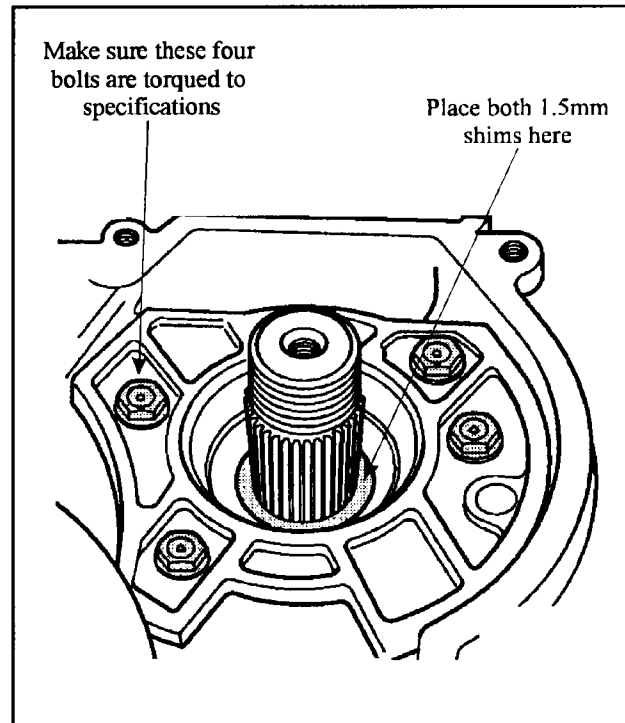

Figure 115
11. Spline the parking gear onto the pinion shaft, and install the selective shim. (For adjustment information see Figure 115 and 116 Page 52).
1. Place two 1.5mm (0.60") thick shims onto the pinion shaft as shown in Figure 115.